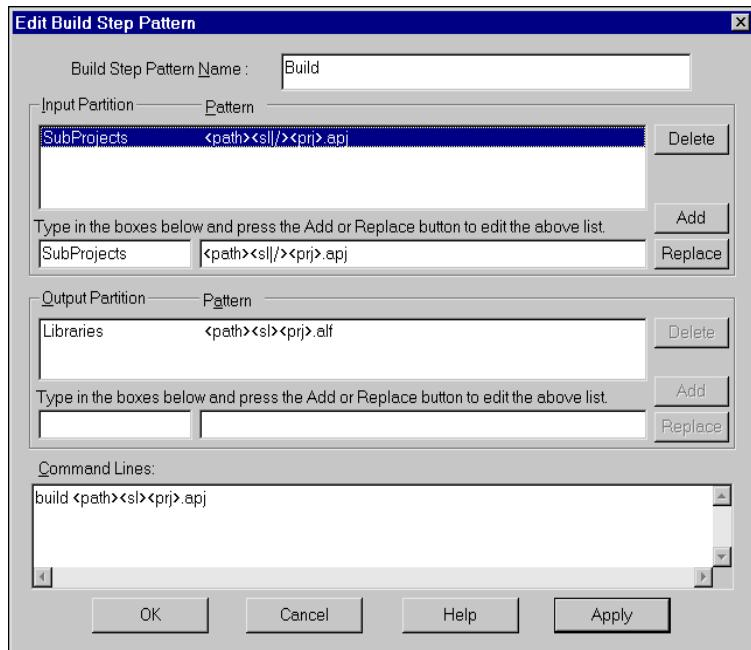

Figure 2-24 Edit Build Step Pattern dialog
2. Click **Edit**. The Build Step Pattern dialog is displayed (Figure 2-24 on page 2-50).